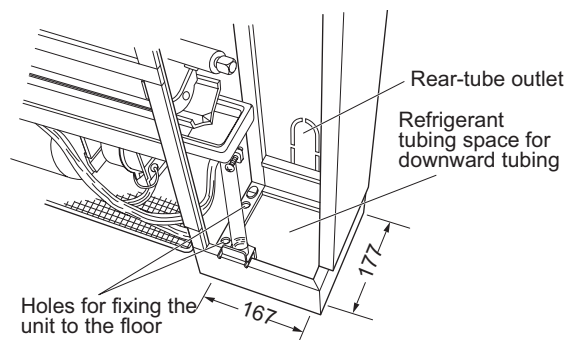

Fig. 2-271
- When a downward tube is required, refer to the opening dimensions shown in Fig. 2-271.